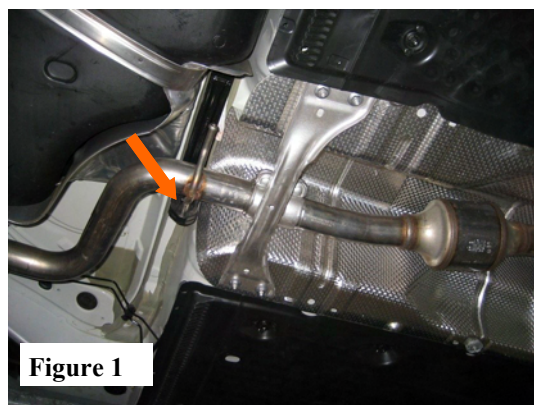

Figure 1
1. The OE exhaust can be removed without cutting the pipe above the rear-axel area. Loosen the (2) clamp bolts as shown (13mm) and slide clamp towards front of vehicle. (Figure.1)